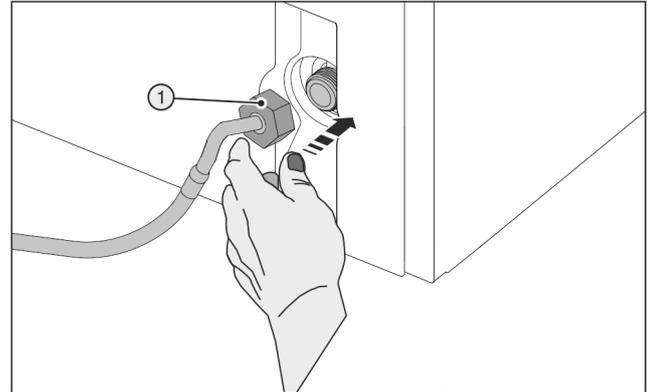

Fig. 29
- ▶ Locate the nut Fig. 29 (1) carefully and screw onto the thread.
- ▶ Position the nut Fig. 29 (1) carefully and screw it directly onto the thread with two fingers until it is seated securely.
- ▶ Only use an auxiliary tool (5) at room temperature.
- ▶ Tighten the nut Fig. 29 (1) clockwise with the auxiliary tool (5) until maximum torque is reached and the auxiliary tool (5) overtightens.